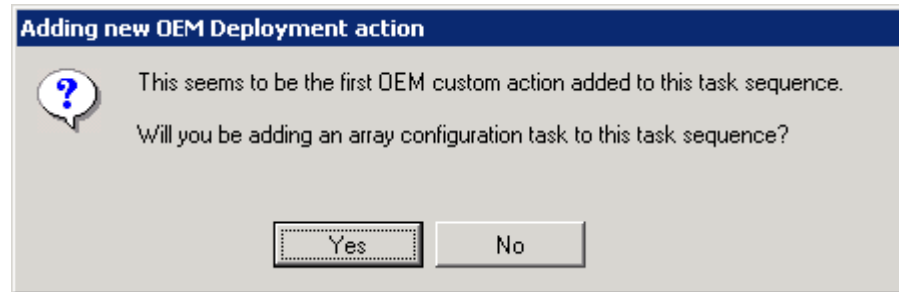

Figure 31: Adding new OEM Deployment Action
5. If the dialog shown in Figure 31 opens, choose one of the following options: